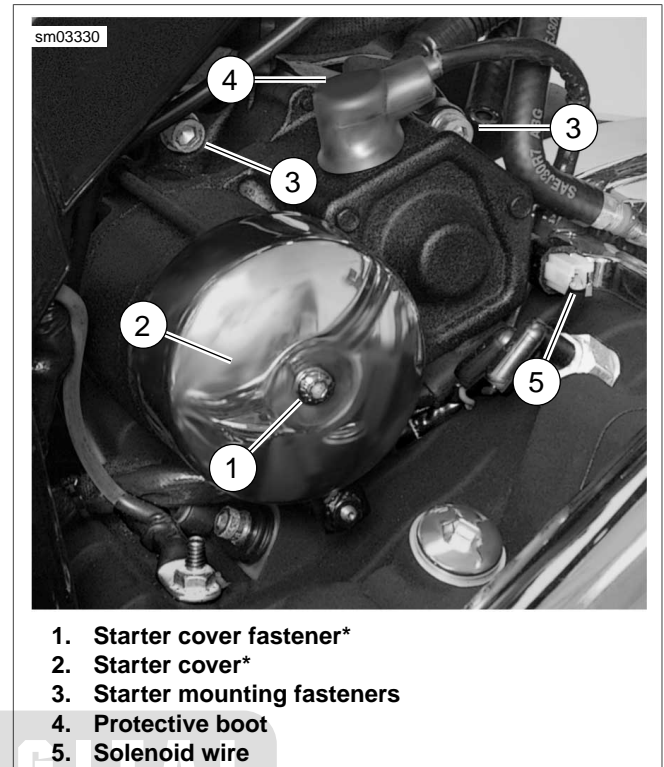

Figure 7-21. Starter
3. See Figure 7-21. Remove starter cover fastener (1) and starter cover (2) from starter.
- a. Remove protective boot (4).
- d. Detach solenoid wire (5).
5. Remove both starter mounting bolts and washers (3).
4. See Figure 7-21. Apply a drop of LOCTITE THREAD-LOCKER 243 (blue) to threads of starter mounting bolts (3).
5. Install the two starter mounting bolts (3) and washers. Tighten to 25-27 ft-lbs (33.9-36.6 Nm).
6. See Figure 7-21. Attach positive battery cable, and solenoid wire (5). Tighten nut (metric) to 65-85 in-lbs (7.3-9.6 Nm). Place protective boot (4) securely over terminal.
7. Attach starter cover (2) using fastener (1).